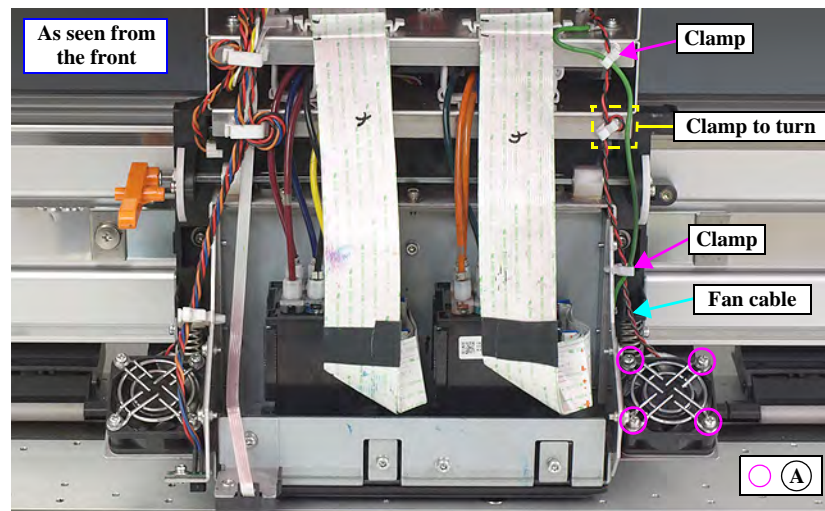

Figure 4-52. Removing the COOLING FAN
- When routing the cable, make sure to give it one turn around the marked clamp. *See Figure 4-52.*